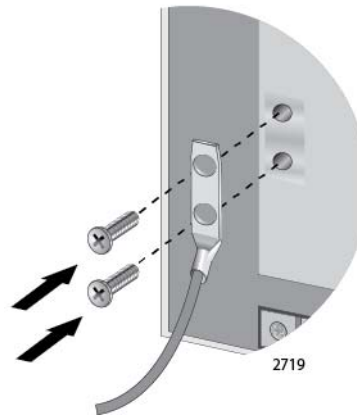

Figure 53. Installing the Grounding Lug and Wire
4. Install the grounding lug on the chassis, as shown in Figure 53. Allied Telesis recommends tightening the screws to 20 inch-lbs.